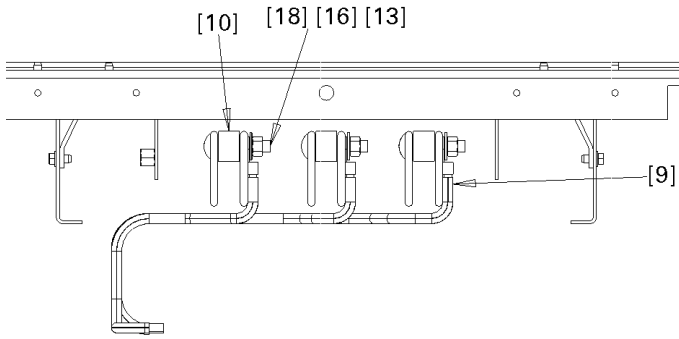

Figure 6. Plug-in assemblies without .281-inch square holes. (Interior spools are not shown for clarity.)
- *Plug-in assemblies and powerpanels without .281-inch square holes (double bus).* For each phase, slide a spacer [10] between the vertical bus bars and install a 3/8-16 x 2" carriage bolt [18] into a .406-inch square hole located toward the rear of the interior vertical bus, as shown in Figure 6. Use the uppermost holes in the 7X (9⁵/₈") space that the TVSS unit can reach. Slide a terminal of the cable assembly [9] onto each carriage bolt. Install a 3/8" spring washer [13] and a 3/8-16 nut [16] onto each bolt and tighten to 200 in.-lb.